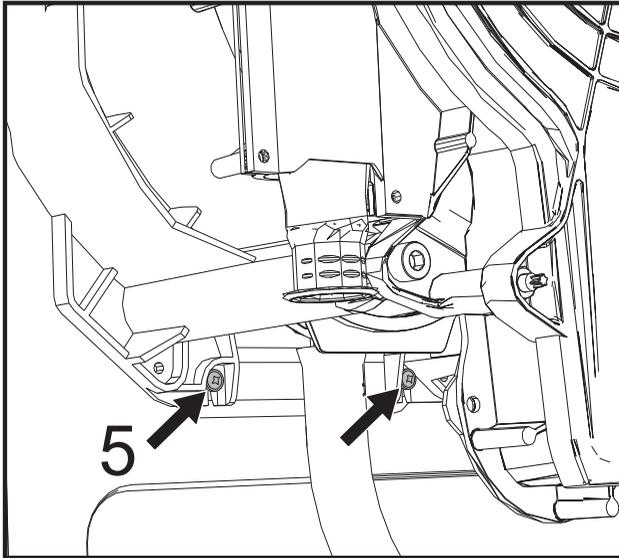

fig. 64
- Loosen the 2 **bottom screws "5"** securing the exchanger to the frame (fig. 64).